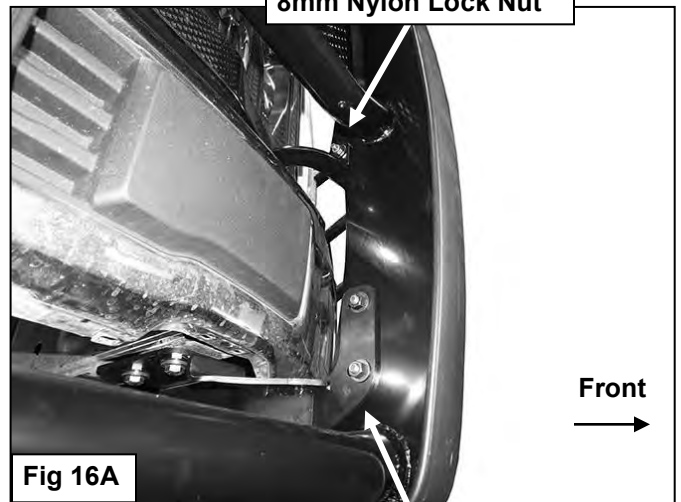

Fig 16A
6. With assistance, place the Grille Guard up to the outside of the Frame Brackets. Attach the Grille Guard to the Brackets with (4) 10mm x 30mm Hex Bolts, (8) 10mm Flat Washers and (4) 10mm Nylon Lock Nuts, **(Figure 16A & 16B)**. Snug but do not tighten hardware at this time.
8. Line up the driver side Top Bracket with the hole in the upright on the Grille Guard. Attach the Bracket to the Grille Guard with (1) 8mm x 30mm Hex Bolt, (2) 8mm Flat Washers, (1) 8mm Nylon Lock Nut, **(Figures 16A & 16B)**. Do not fully tighten hardware at this time.